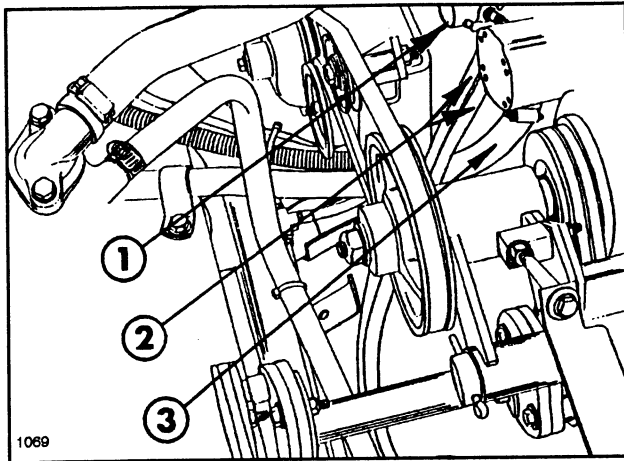

FIG. 2
8. At the hydraulic control valve, loosen and disconnect the fittings for the right hand dump cylinder hoses. Reroute these hoses to the underside of the pump suction hose. Reconnect and tighten fittings, then secure with tie straps. Secure all other hoses and cables with tie straps to ensure they do not rub against pump pulleys and belts (FIG. 2).